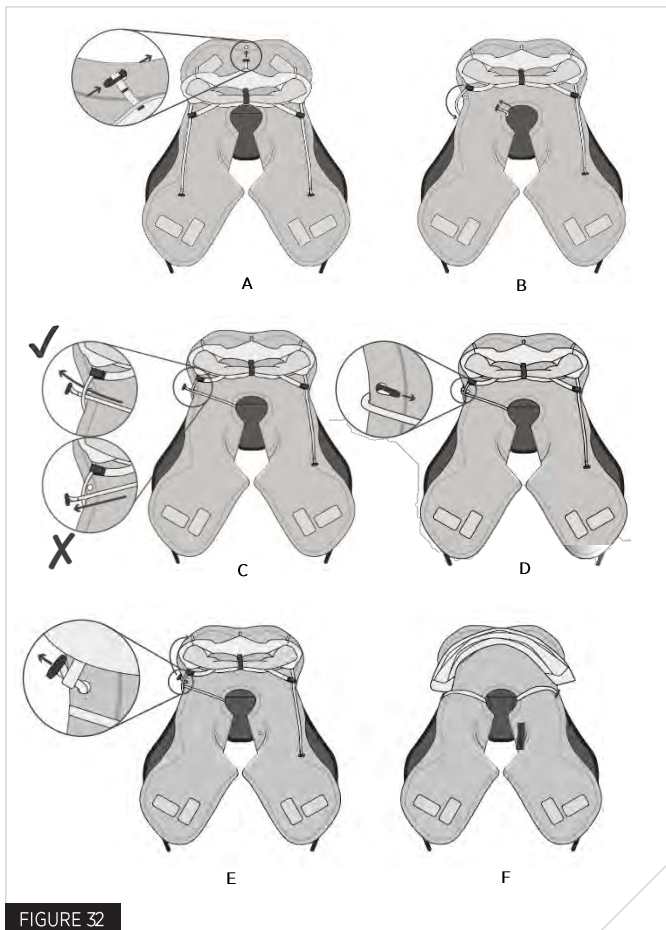

FIGURE 32
2. Locate the toggle at the top of the hood and feed it through the punched hole on the top of the bladder FRONT TO BACK (Fig. 32, A)
3. Locate the toggles on each side of the hood. Pass the toggles BEHIND the device and through the neck opening (Fig. 32, B).
4. Grab the toggle from the neck opening, pass it over the bladder and feed the toggle UNDER the toggle cord (Fig. 32, C).
5. Feed the toggle through the punched hole on the side of the bladder BACK TO FRONT (Fig. 32, D).
6. Once fed through the punched hole, secure the toggle to the sprayhood using the attachment points (Fig. 32, E).
8. Your sprayhood is now attached (Fig. 32, F).